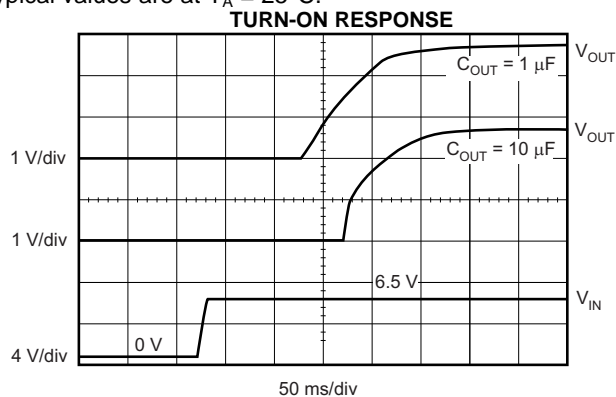

Figure 31.
Note that for fastest startup, V_{IN} should be applied first, then the enable pin (EN) driven high. If EN is tied to IN, startup will be somewhat slower. Refer to Figure 31 in the Typical Characteristics section. The quick-start switch is closed for approximately 135 μ s. To ensure that C_{NR} is fully charged during the quick-start time, a 0.01 μ F or smaller capacitor should be used.